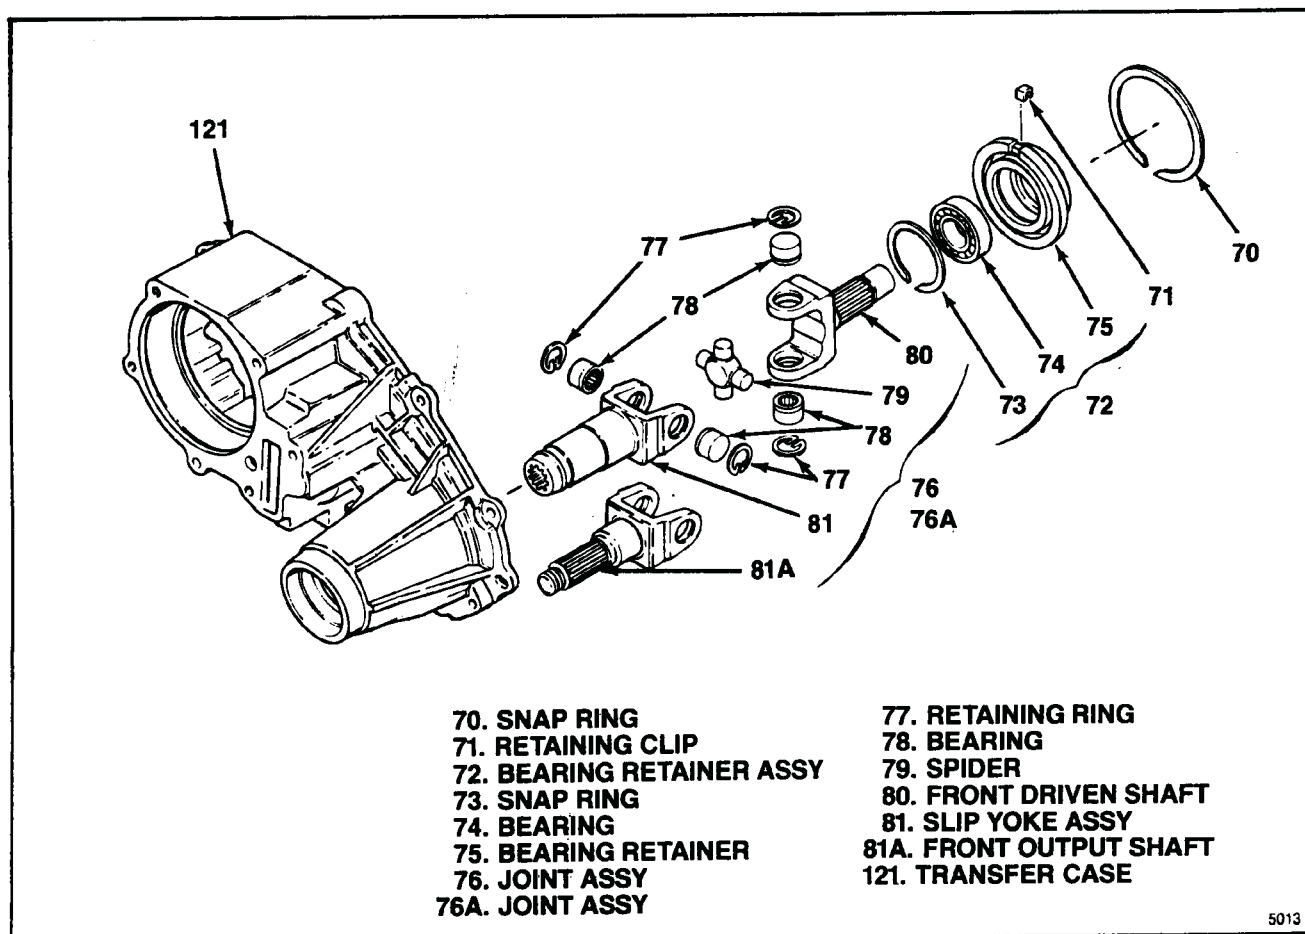

Figure 3-10. Front Output Shaft Group
**3-15. REMOVAL OF FRONT OUTPUT SHAFT GROUP.** From remaining transfer case assembly (70 through 121), remove the following (see figure 3-10):
- a. Remove snap ring (70) and retaining clip (71).
- b. Remove bearing retainer assembly (72) and joint assembly (76 or 76A) from transfer case (121).
- c. Remove snap ring (73) and pull bearing (74) from bearing retainer (75).
- e. Remove four retaining rings (77) and pull four bearings (78).
- f. Separate spider (79), front driven shaft (80) and slip yoke assembly (81) or front output shaft (81A).